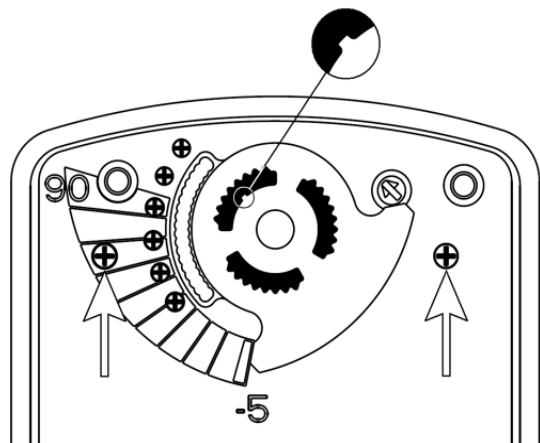
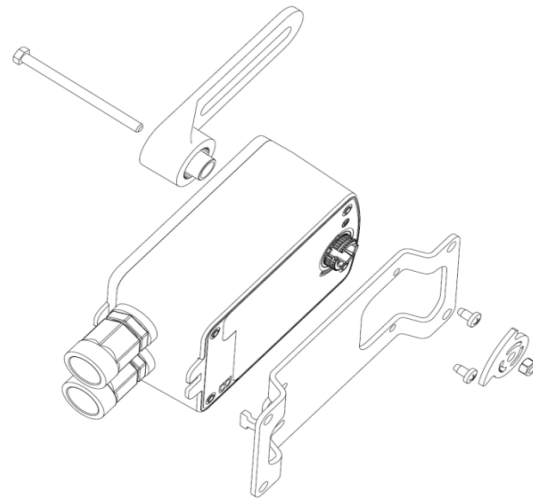

Figure 4: Washer orientation on actuator and location of mounting holes
Figure 5: Actuator crankarm with washer assembly
1. The bracket is secured using an anti-rotation tab and two thread forming screws (Figure 5).
4. Install the crankarm and washer using the M5 cap screw and nylon insert hex nut, as shown in Figure 5. The washer only fits in one direction from the tab shown in Figure 4. Install the M5 nylon insert hex nut using the recommended torque of 1.7 to 2.3 N·m (15 to 20 lb·in).
8. An adjustable end-stop may be installed on the washer side to limit the stroke (Figure 5).